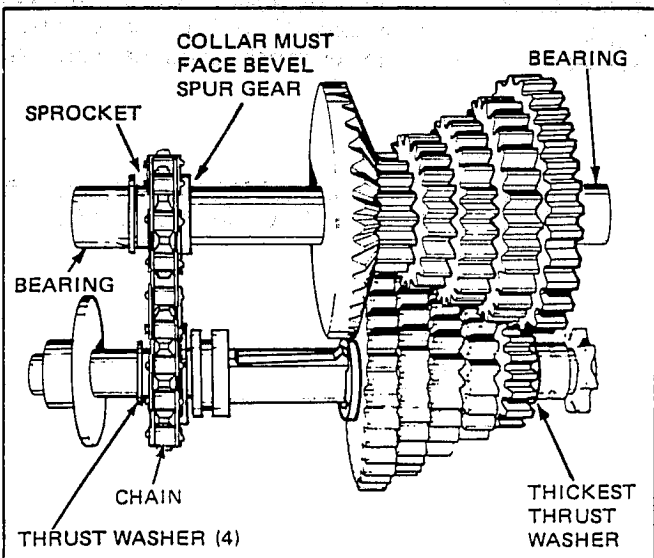

Figure 2-54
6. With collar on countershaft sprocket facing the bevel spur gear install sprocket onto serration and install chain. Install all (4) thrust washers to shafts. The thickest thrust washer MUST be positioned on the shifting gear end of the output shaft. See Figure 2-54. Install bronze bearings and disc and sprocket. See Figure 2-54.